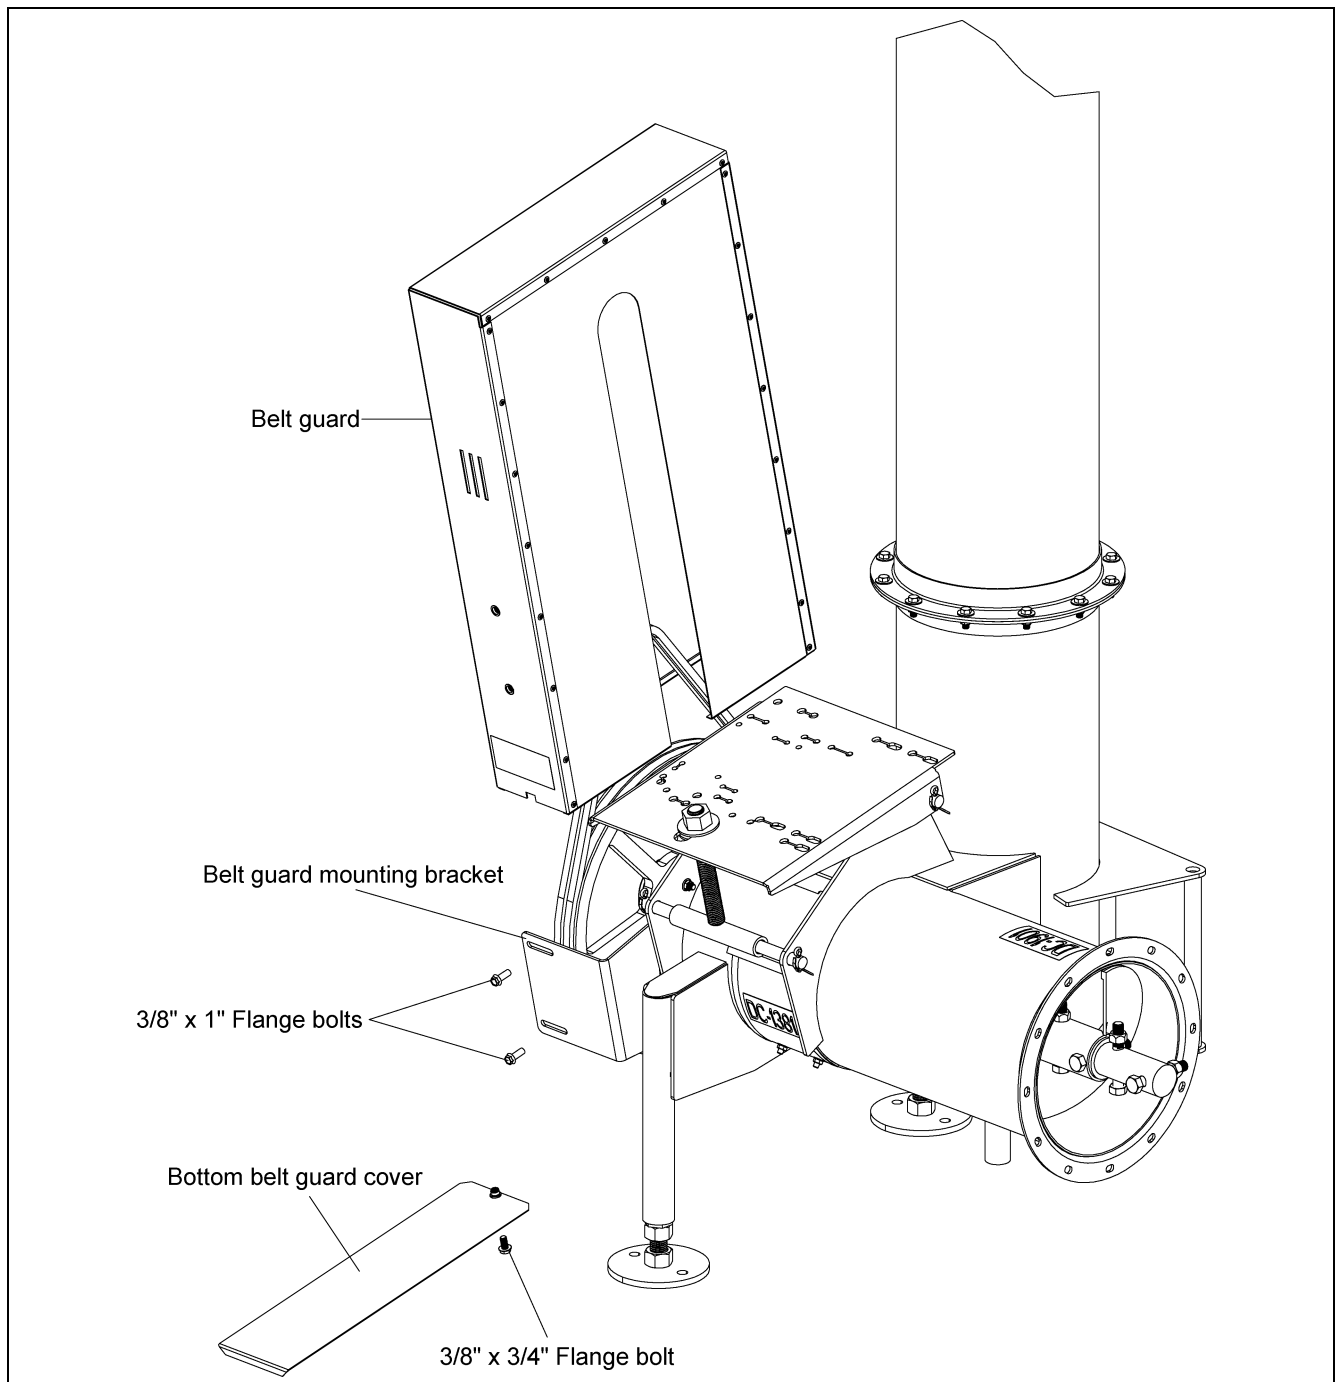
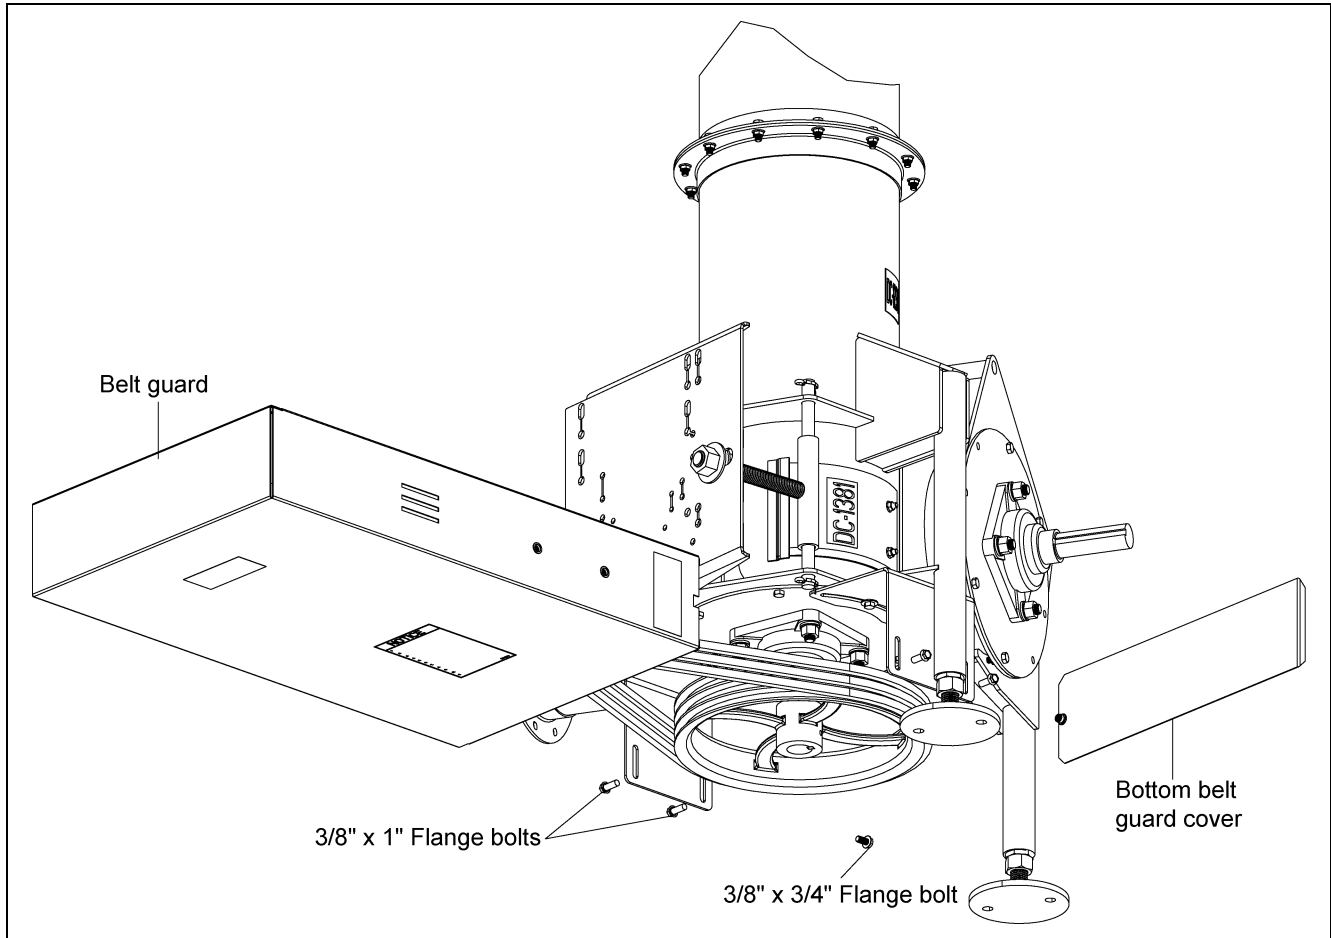

Figure 3R
Figure 3S
- B. Bolt the *belt guard* to the *belt guard mounting brackets* using four (4) 3/8" x 1" flange bolts. The *belt guard mounting brackets* should still be loose at this time.
- C. Align the *belt guard's* slot with the *motor shaft* and the *flight drive shaft*, making sure that the belt guard does not come into contact with either of the *pulleys*. Tighten down the *belt guard mounting brackets* to the *bearing plate*. (See Figure 3R below and Figure 3S on Page 27.)